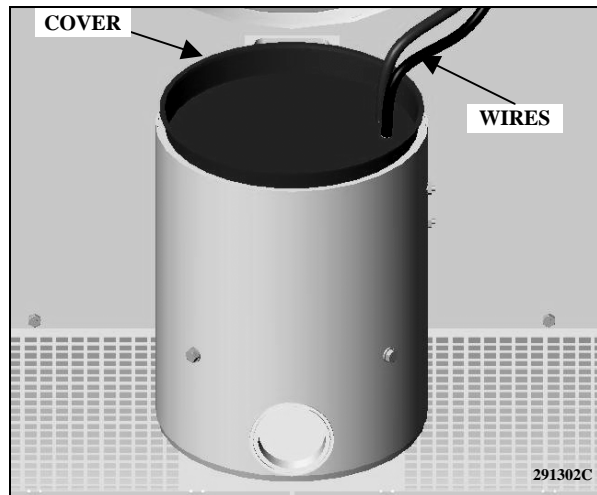

Figure 4-3. Collector Ring Housing
2. Note the wiring location before removing the wires. (See Figure 4-3).